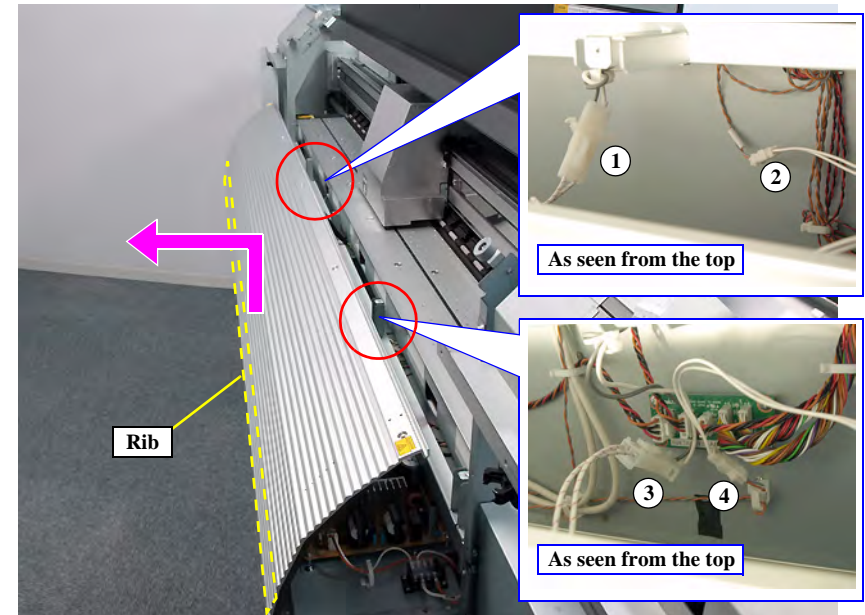

Figure 4-39. Removing the After Heater Cover
8. Disconnect the four relay connectors. *See Figure 4-39.*